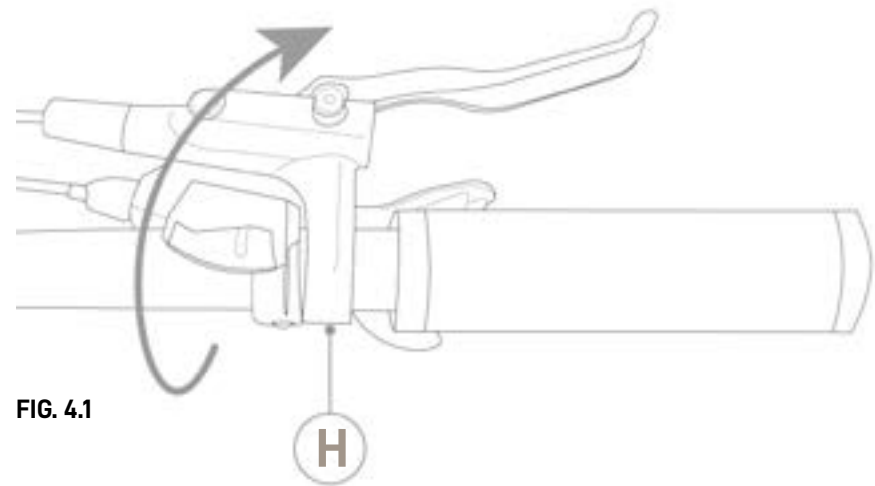

FIG. 4.1
- Rotate the brake lever using the tightening screw (Ref. H - Figure 4.1) until you reach a comfortable hand position; Check that you have tightened the screw correctly before using the pedal-assisted bicycle.